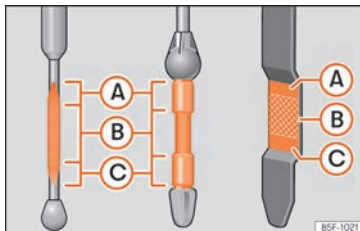

Fig. 212 Engine oil dipstick.
- Then pull it out once more and check the oil level »» **Fig. 212**. Top up with engine oil if necessary.
- When the oil level reaches at least zone »» **Fig. 212 (B)**, unscrew the engine oil filler cap carefully »» **ⓘ**.
If the oil level is above area »» **Fig. 212 (A)**, do not start the engine. This could result in damage to the engine and catalytic converter. Contact a specialised workshop.
The oil level must never be above zone »» **Fig. 212 (A)**. Otherwise oil can be drawn in through the crankcase breather and leak into the atmosphere via the exhaust system.